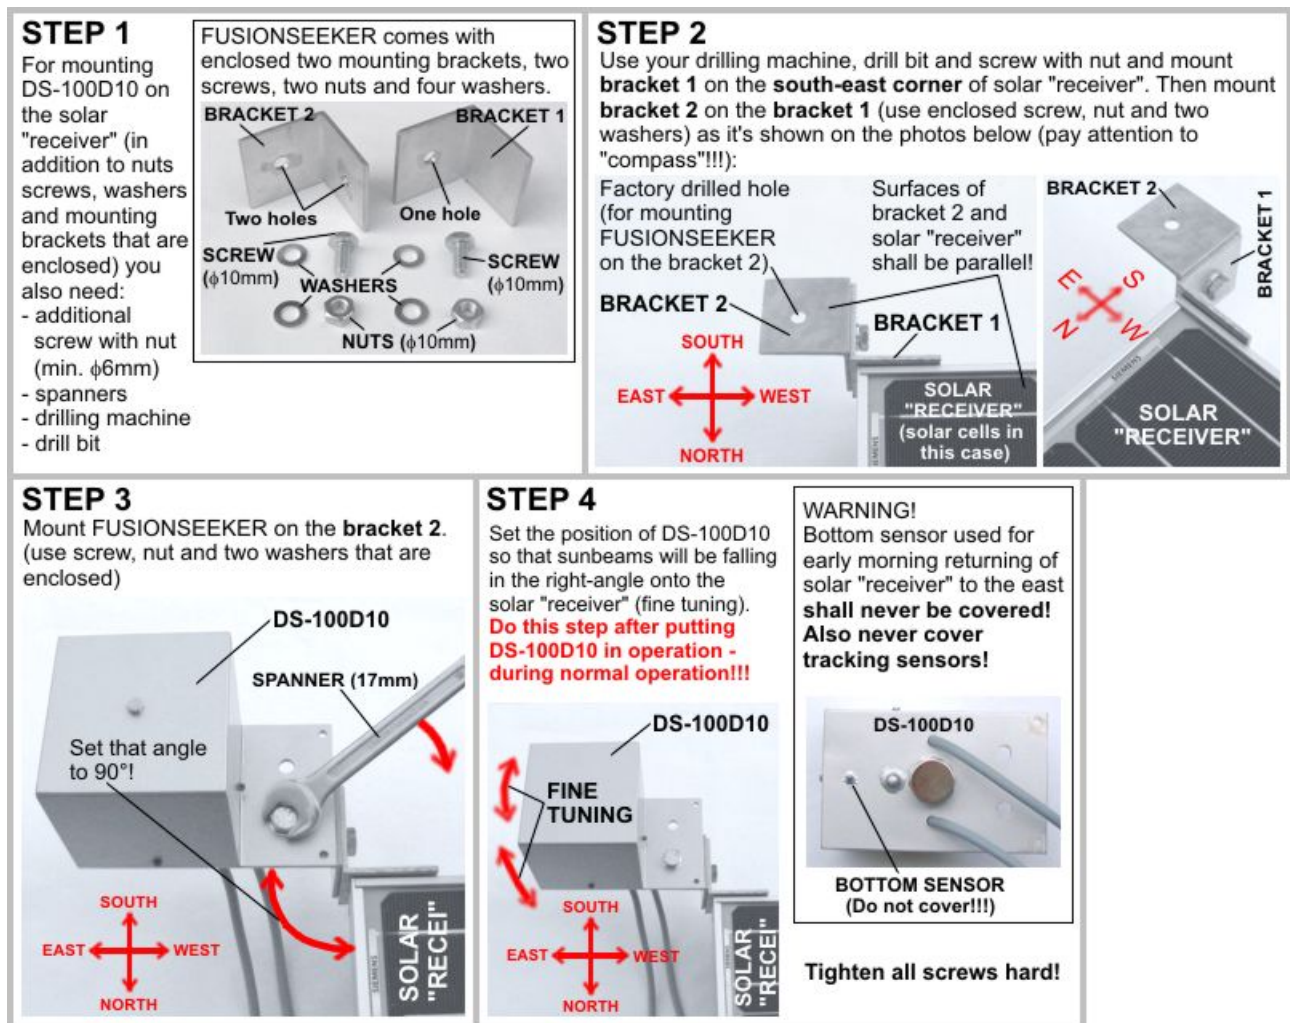

Figure 9: Mounting FUSIONSEEKER DS-100D10 on the solar "receiver" (southern hemisphere)
b) If your tracker (solar "receiver") is positioned somewhere in the southern hemisphere of the earth mount DS-100D10 on the south-east corner of your solar "receiver" as it's shown on Figure 9: